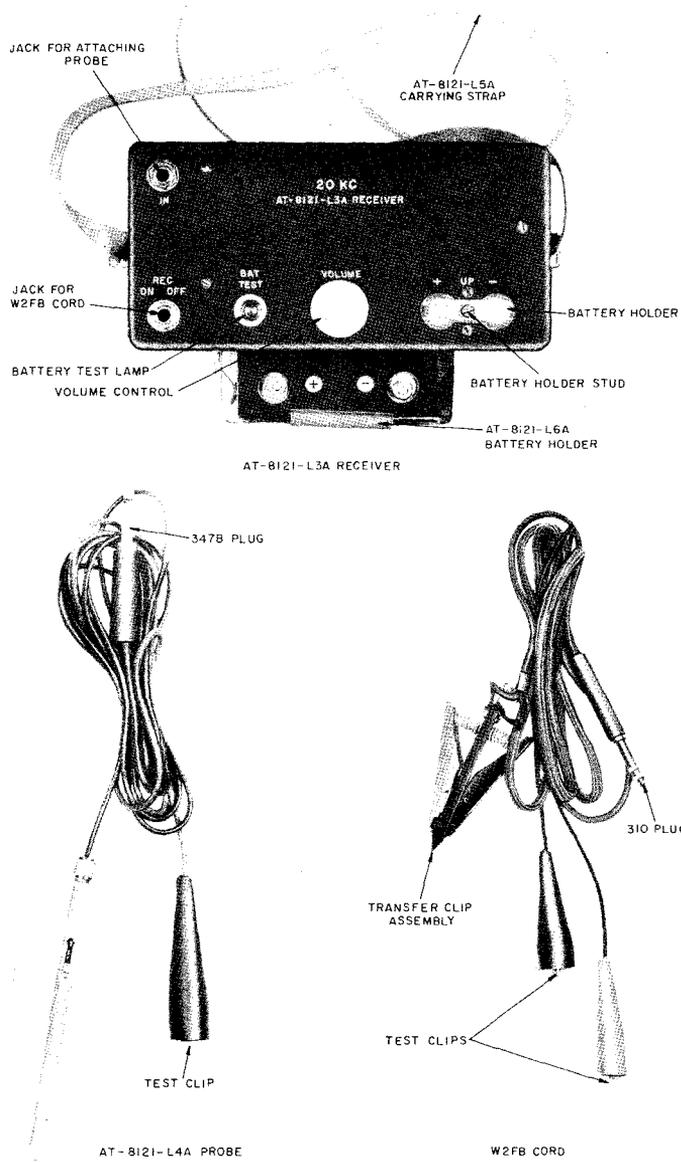

Fig. 2 — Receiver and Cords
**3.06** One 4.5-volt battery (KS-6569) is required on the receiver (see Fig. 2) for the talking circuit. To replace this battery, squeeze the ends of the holder sufficiently to permit the enlarged portion of the mounting holes to clear the mounting stubs. Remove the holder and the battery. Substitute the new battery and remount the holder.